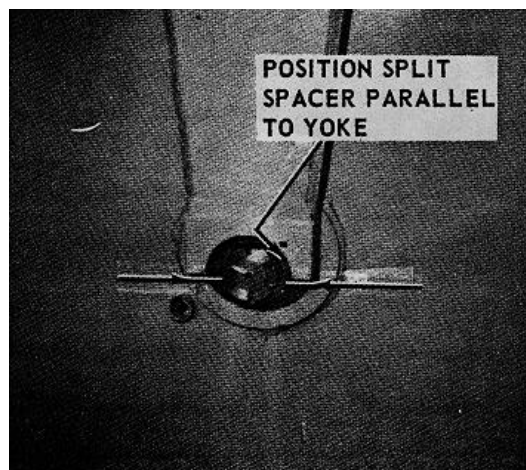

FIGURE 9-112.
c. Position the spacer slits so they line up with the slits between the caps and the steering yoke. Remove the frame blocking and lower the gooseneck until the axle shaft carries the weight (see figure 9-112).